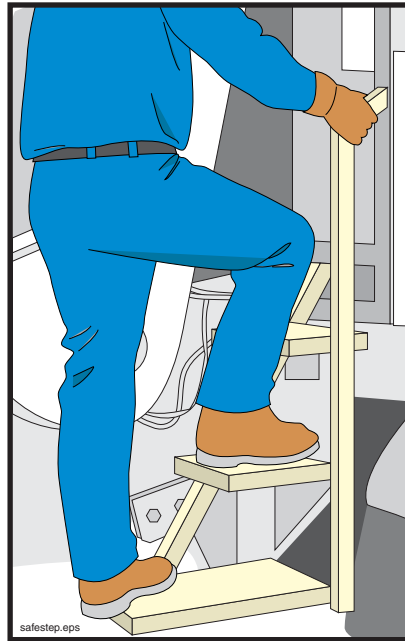

Figure 6
3.13 **⚠ WARNING** (See Figure 6.) Mount or dismount the pump or truck using the *3 Point Rule* (i.e. keep two hands and one foot or one hand and two feet in contact with a secure surface at ALL times).